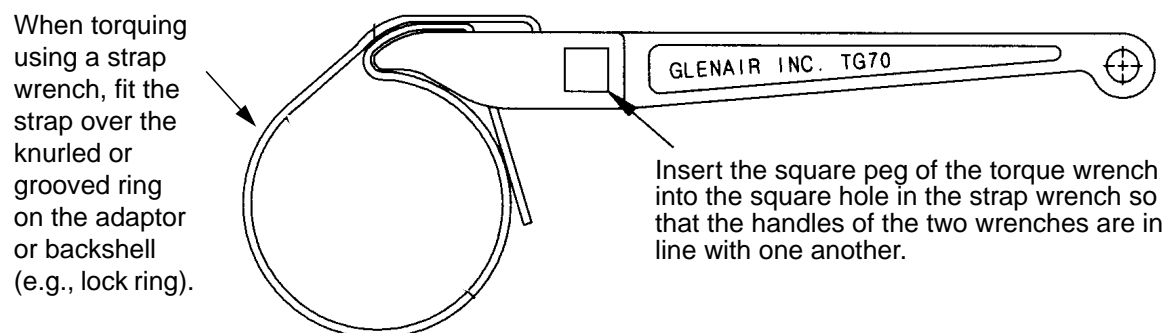
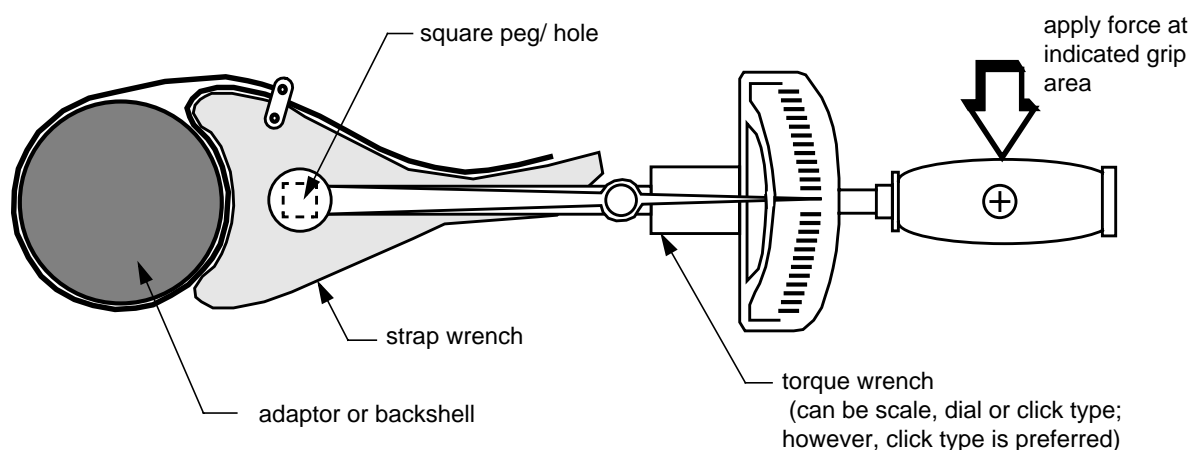

Figure 11 - Strap Wrench (Typ.)
Figure 12 - Use of Strap Wrench with Torque Wrench
- 4.2.4 Strap wrench for torquing of connector backshells and connector adapters (e.g., Daniels BT-BS-601 or Glenair TG70). See Figure 11 for a general description of a strap wrench.
- 5.4.3 Torque connector backshells/adapters using a strap wrench fitted into a torque wrench. When using a strap wrench, insert the square peg of the torque wrench into the square hole in the strap wrench (see Figure 11) so that the handles of the two wrenches are in line with one another as shown in Figure 12.